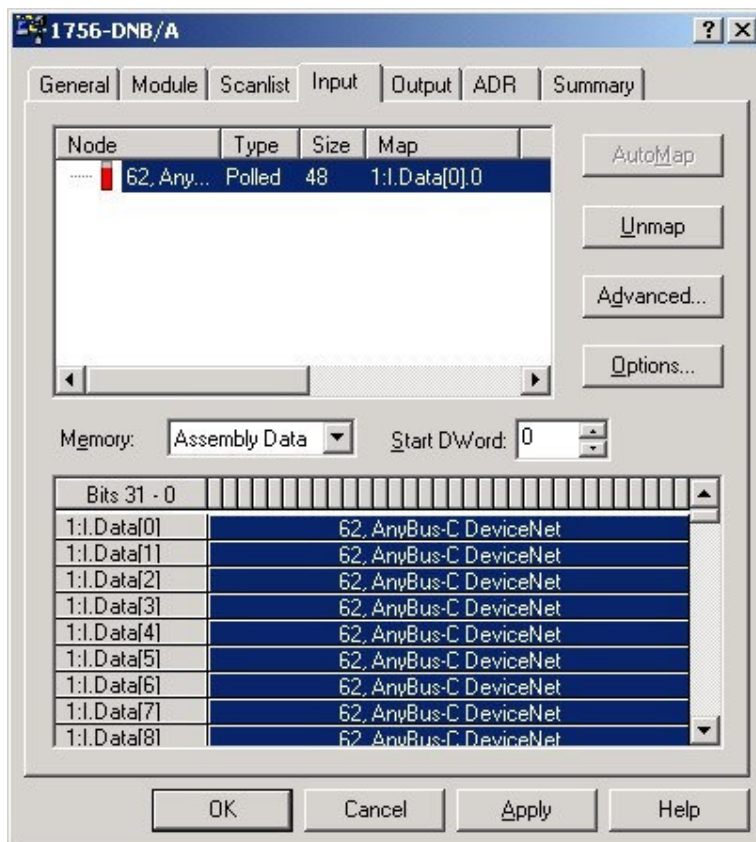

Figure 5
3. Next step is to verify the I/O mapping. Data is normally auto-mapped into contiguous 32-bit registers in the Controllogix's designated memory for the 1756-DNB module. To verify the Inputs, select the tab Input in the Scanner's configuration window. You should get a window as shown in Figure 5. Verify that this is the correct memory mapping to be used by the PLC program.